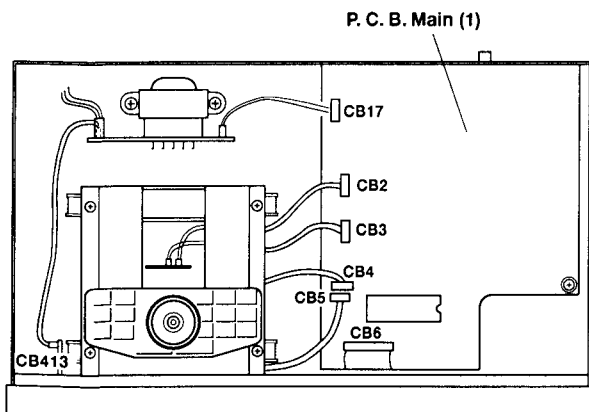

Fig. 2
- Remove 2 connectors in Fig. 2.
- Remove 4 connectors in Fig. 2.